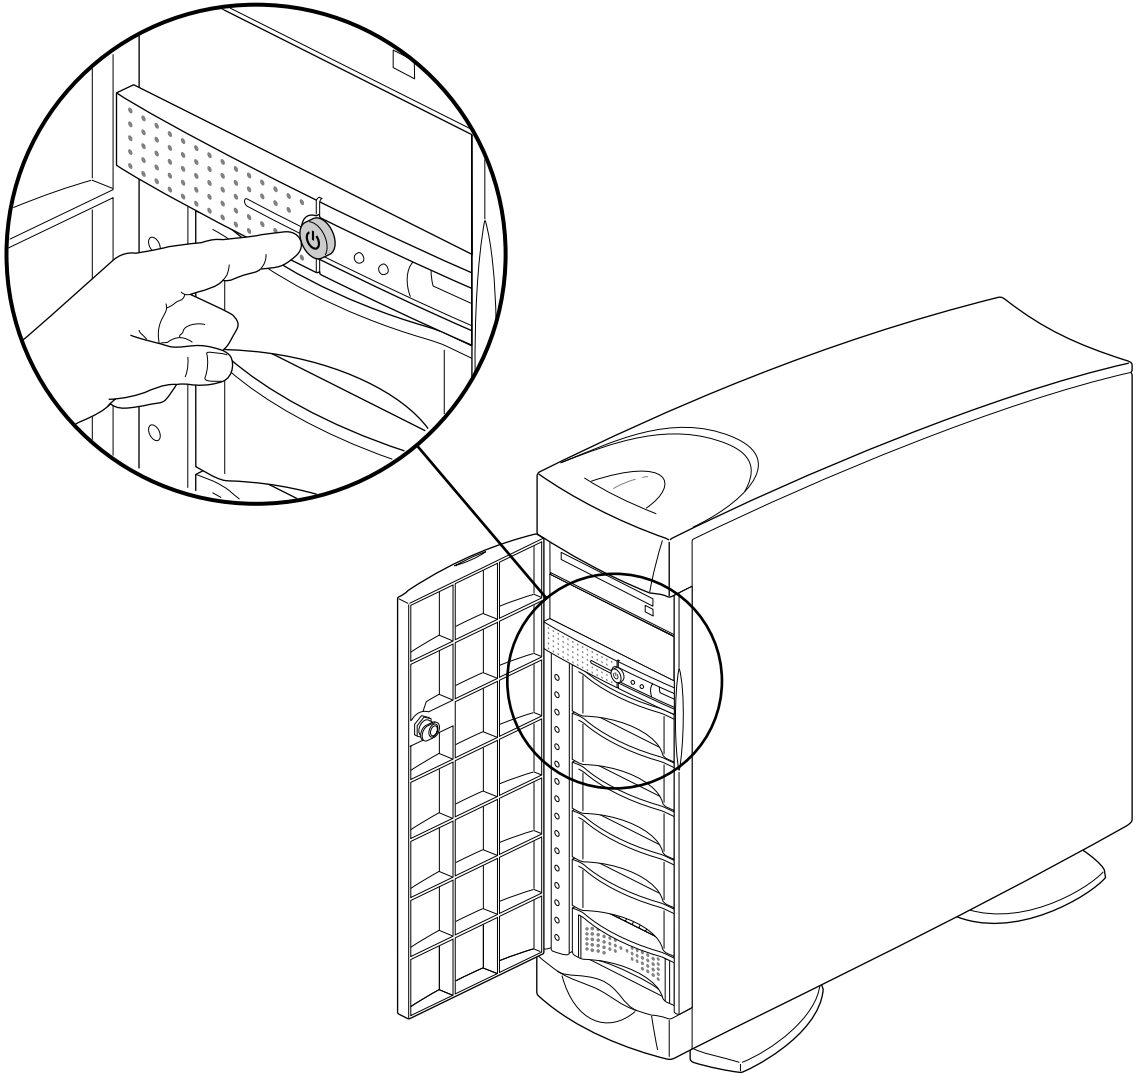

Figure 4-4 Turning Off the Front Power Switch
4. Once you see the System Maintenance Menu, locate the power button at the front of the chassis (the master chassis in a two-module system) and press it once. See Figure 4-4.